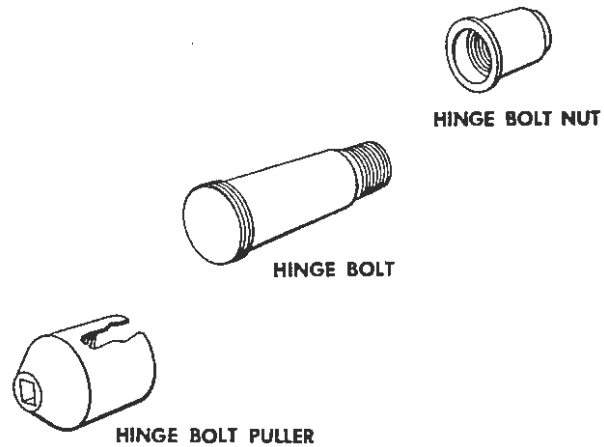

Figure 2-9. Wing Hinge Bolt, Puller and Nut
- i. Loosen the nuts on the upper and lower front spar bolts, located inside the nacelle. Break loose the spar bolts with a spar bolt puller, Beech Aircraft Part 182061 (figure 2-9), and then remove the nuts.